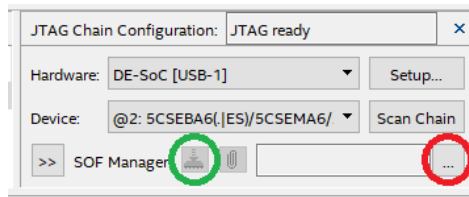

Figure 15: Buttons used to select programming file (red) and start programming (green).
- Press the ... button circled in red in Fig. 15, select the .sof file and press **Open**. This is the file containing the design to be programmed onto the FPGA. Upload the file to FPGA by pressing the **Program Device** button circled in green in Fig. 15. Once the upload process is finished, your design should be up and running on the FPGA.